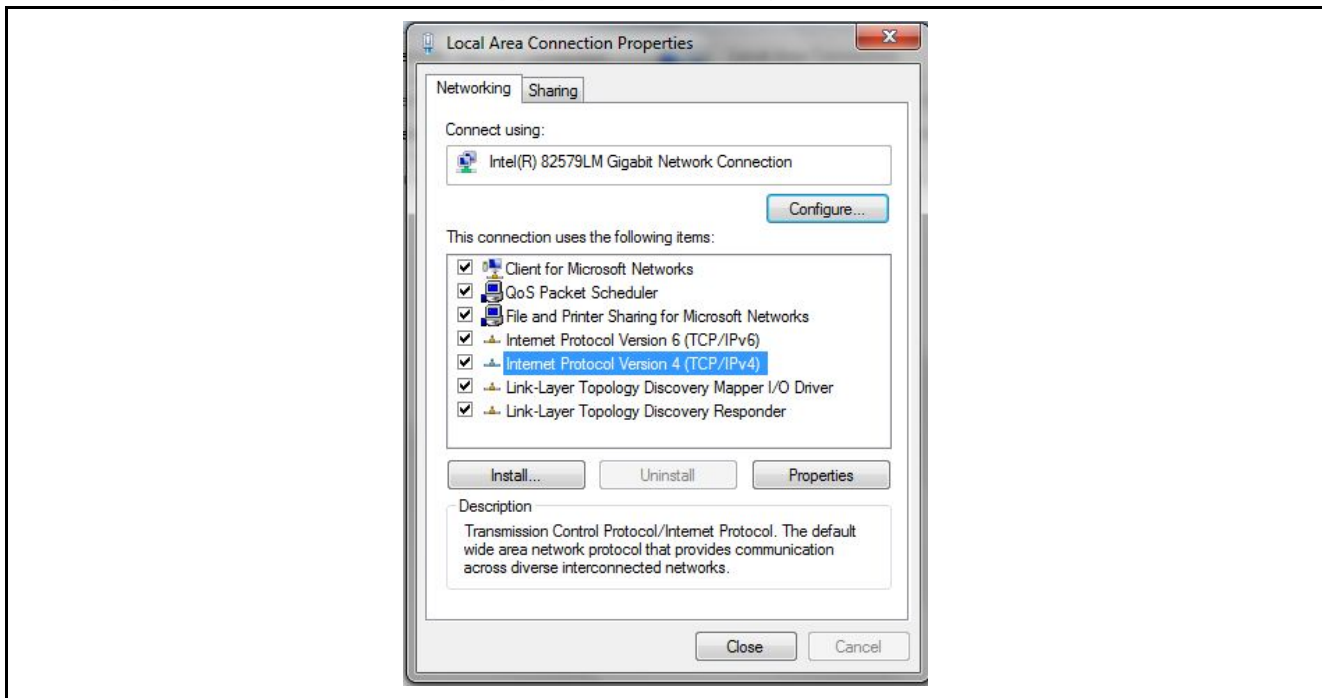

Figure 5 The Procedure to Configure Local Network Properties
6. Setup the local area network connection properties as shown in Figure 5.